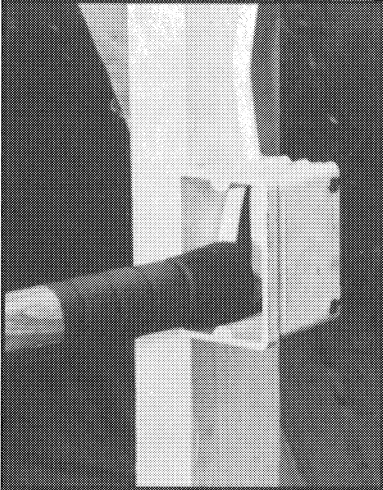

Fig. 3
2. Before installing the wall covering over the electrical box, position electrical wires to the bottom left side of the electrical box (see Fig. 3). Your hammer handle is an excellent tool for this purpose.